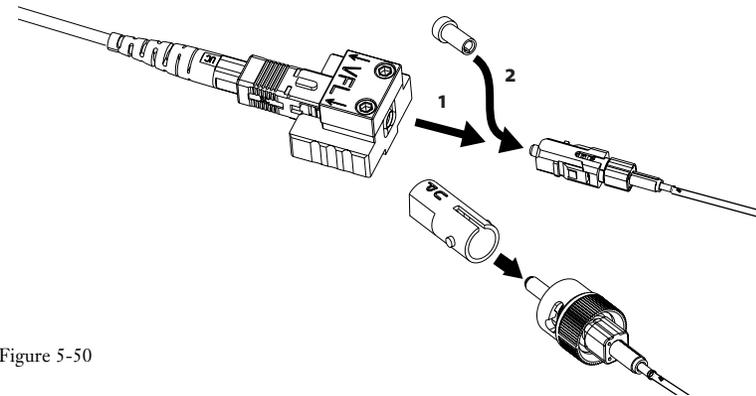

Figure 5-50
**5.8-9** If you are using the CTS system, remove the connector from the CTS coupler and replace the front dust cap (Figure 5-50).